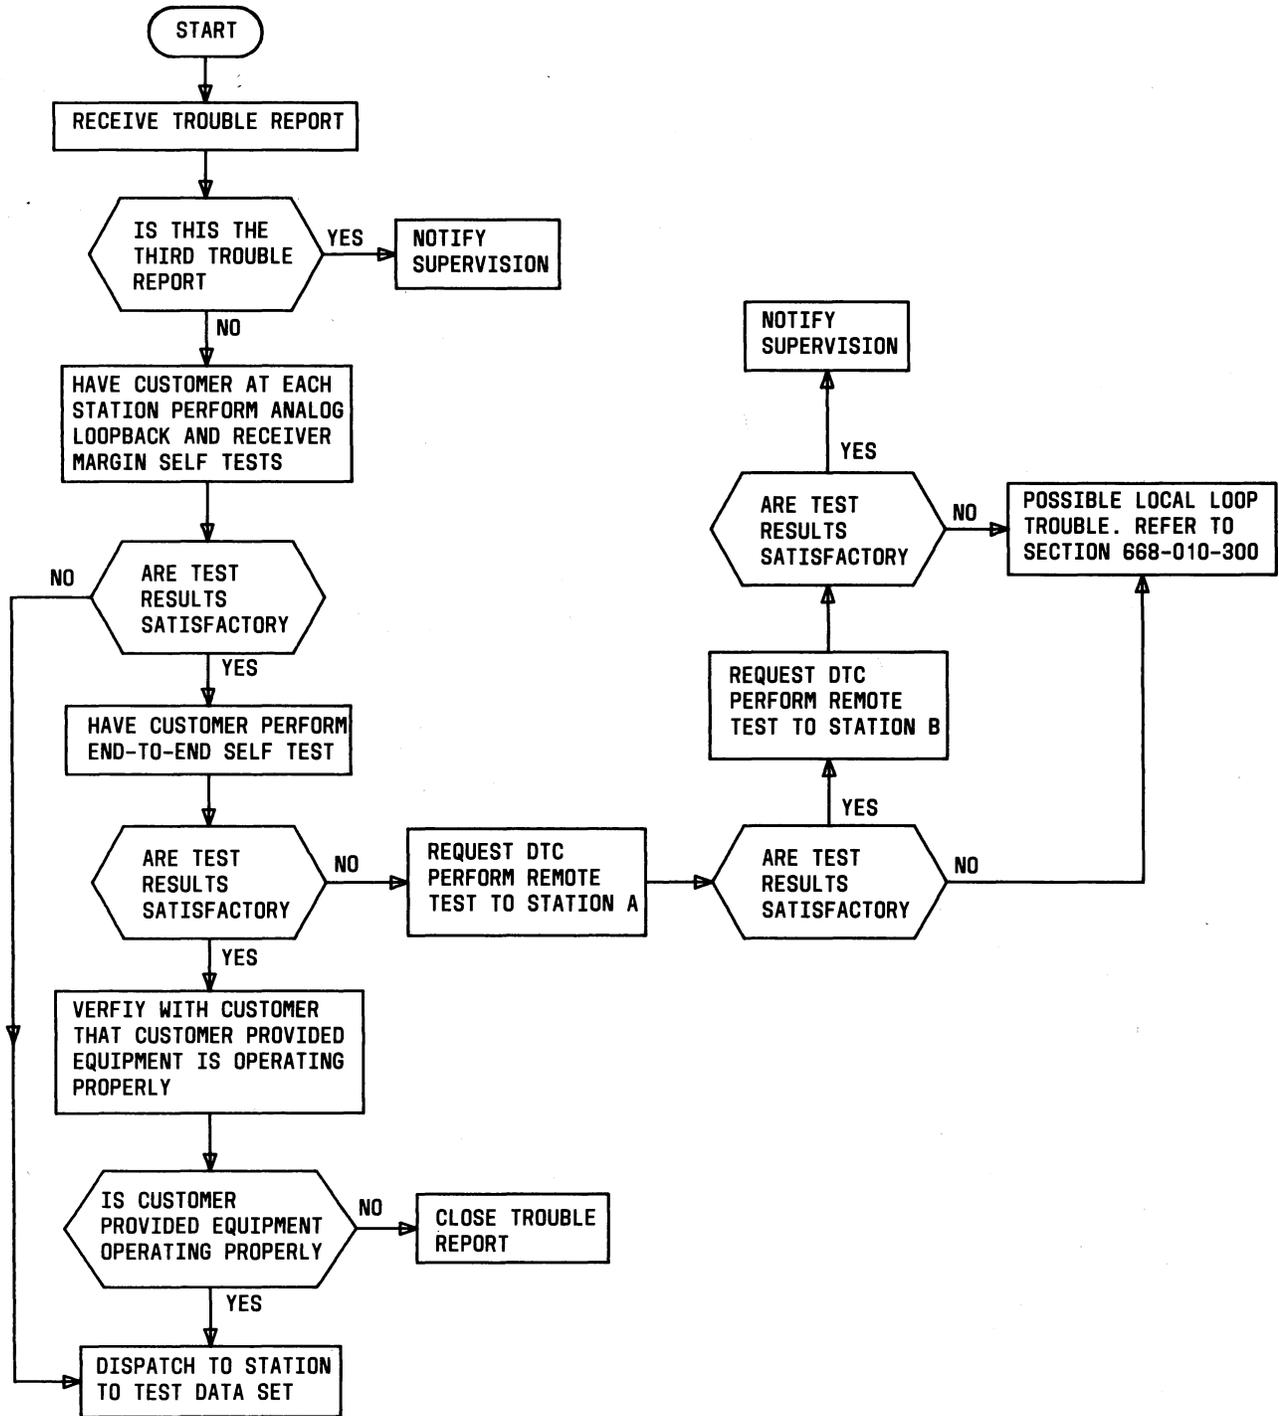

Fig. 3—Clearing Trouble Report
**3.02** When a trouble report is received, a test center is responsible for isolating the trouble to the data station or the transmission facility. The procedure for doing this is shown in Fig. 3.